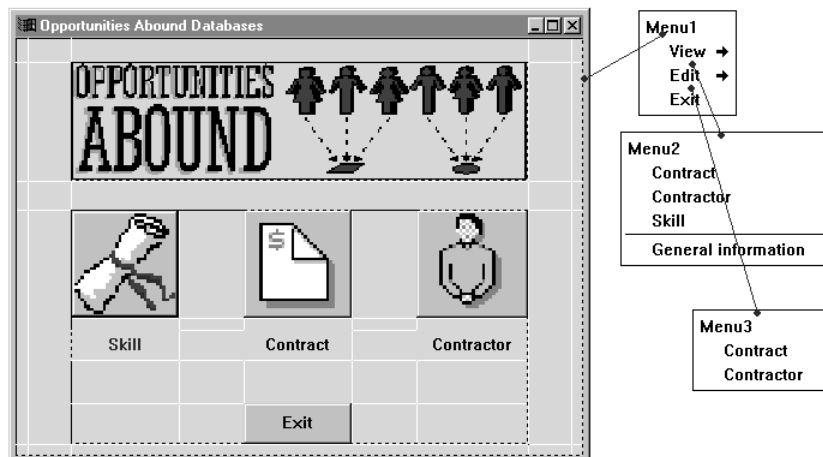

Figure 110. OASearch Welcome Window with Menus
The purpose of this section is to guide you through adding menus to the welcome window of the sample recruitment application. The completed menu parts and connections are shown in Figure 110.
5. Edit the text of the menu choices as shown in Figure 110 on page 243. To do this, select each one and press Alt+mouse button 1.
You can change the position of a menu choice part within the menu part by using mouse button 2 to drag each item to a new position. Position these parts and change their text as shown in Figure 110 on page 243.
The other menu choices, shown in Figure 110 on page 243 connect to other parts that are not on this free-form surface. These connections are completed in “Completing the Menu Bar” on page 269.